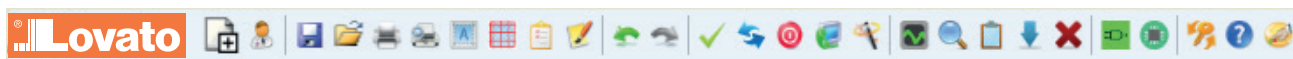
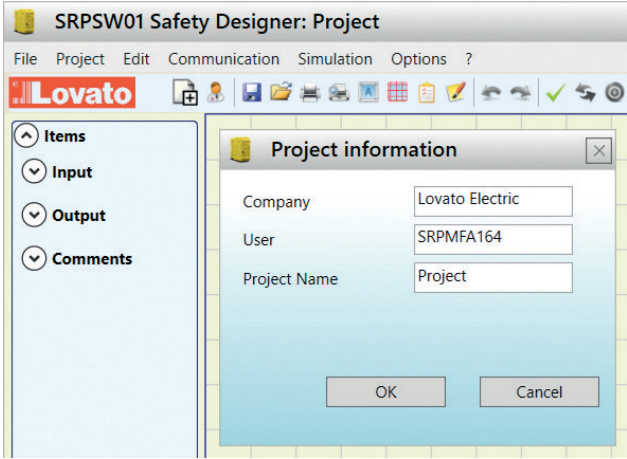

Figure 14
Figure 16
The standard tool bar is shown in Figure 14. The meanings of the icons are listed below:
- Select icon CREATE  (Figure 14) from the standard tool bar to start a new project. The user authentication window is displayed (Figure 16).